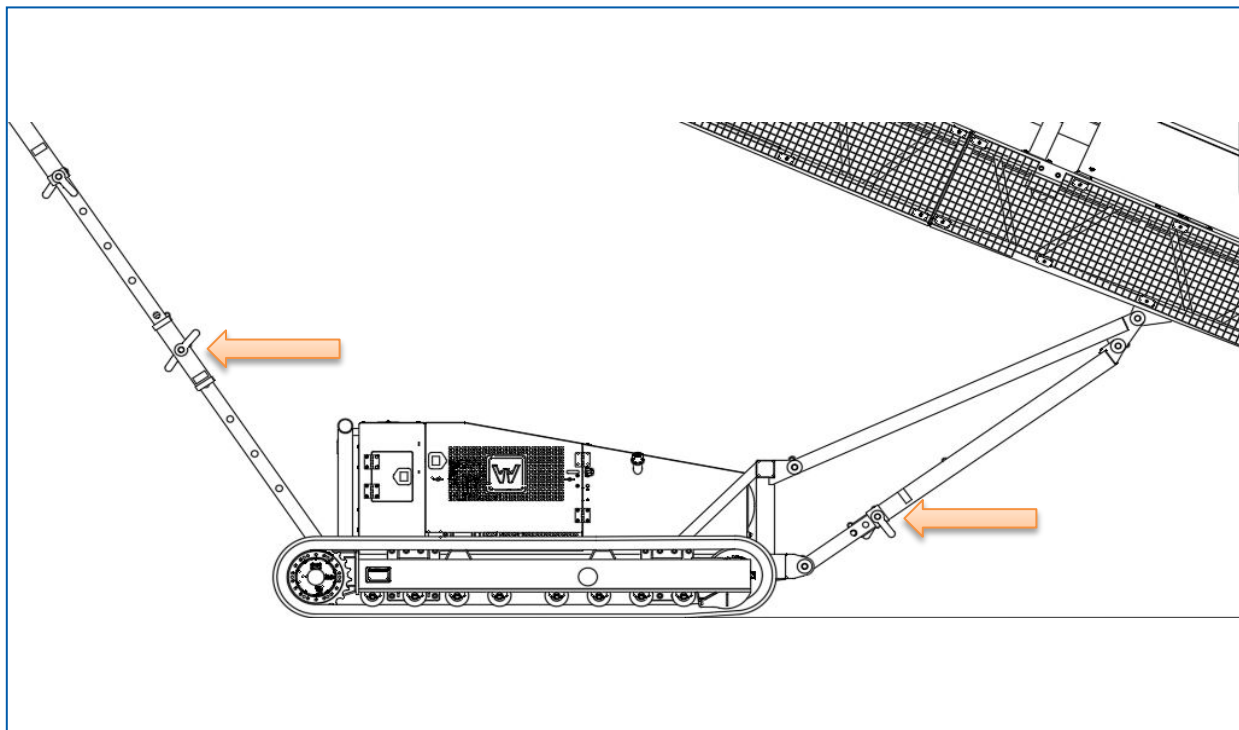

Figure 5: Pin Holes
- Continue raising the conveyor to the appropriate height. Adjust the height of the conveyor to align with the nearest pin holes located on the inner undercarriage (Figure 5). Replace the pins (X2) and lower the conveyor to ensure the pins are carrying the weight of the conveyor.